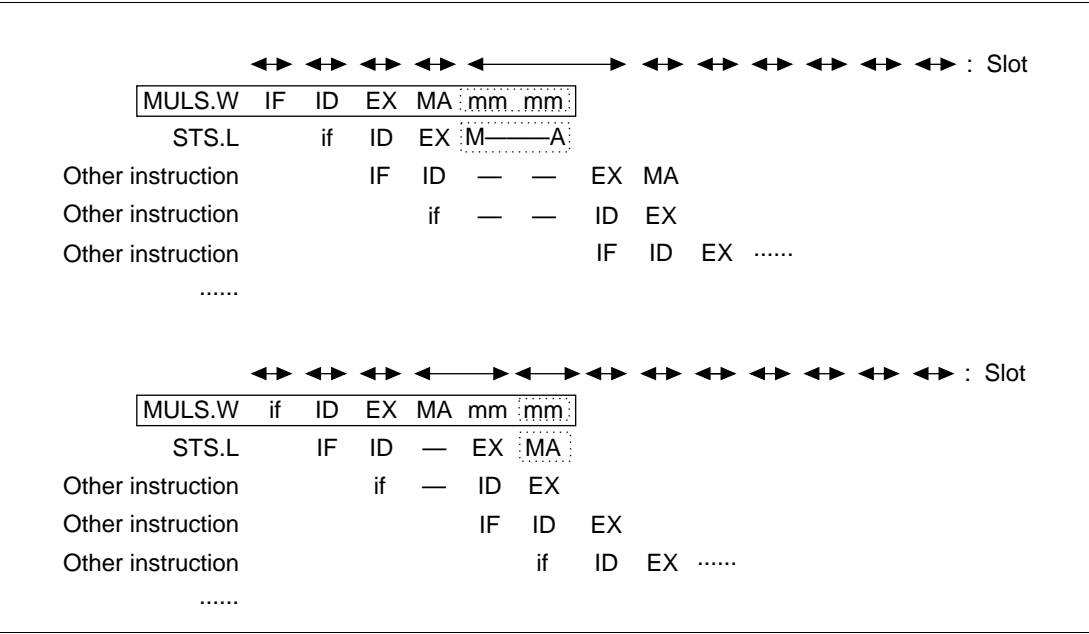

Figure 7.69 STS.L (Memory) Instruction Immediately After a MULS.W Instruction
- When the contents of a MAC register are stored in memory using an STS instruction, an MA stage for accessing the multiplier and writing to memory is added to the STS instruction, as described later. The MA of the STS contends with the IF. Figure 7.69 illustrates how this occurs, assuming MA and IF contention.